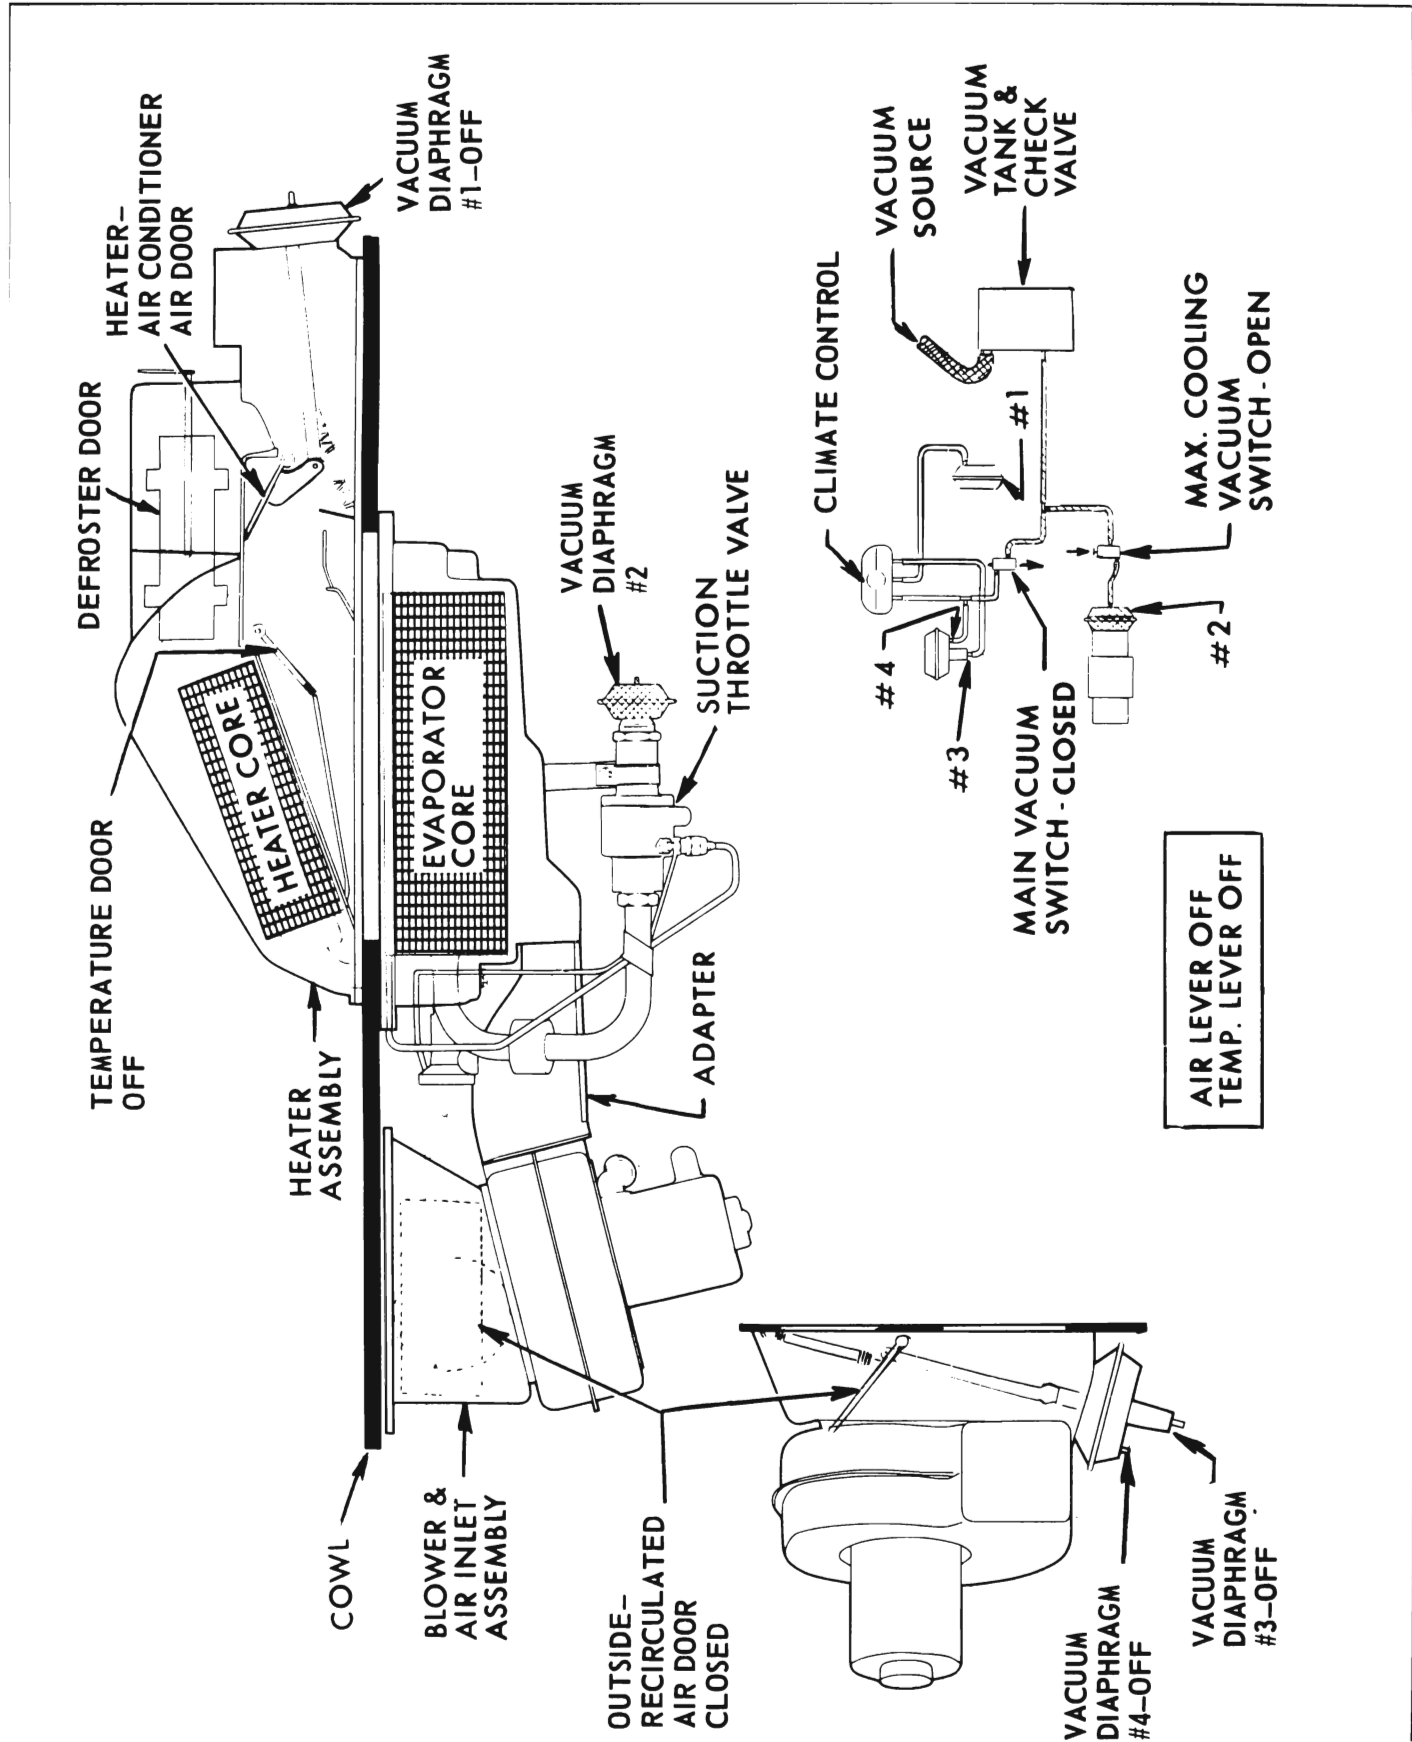
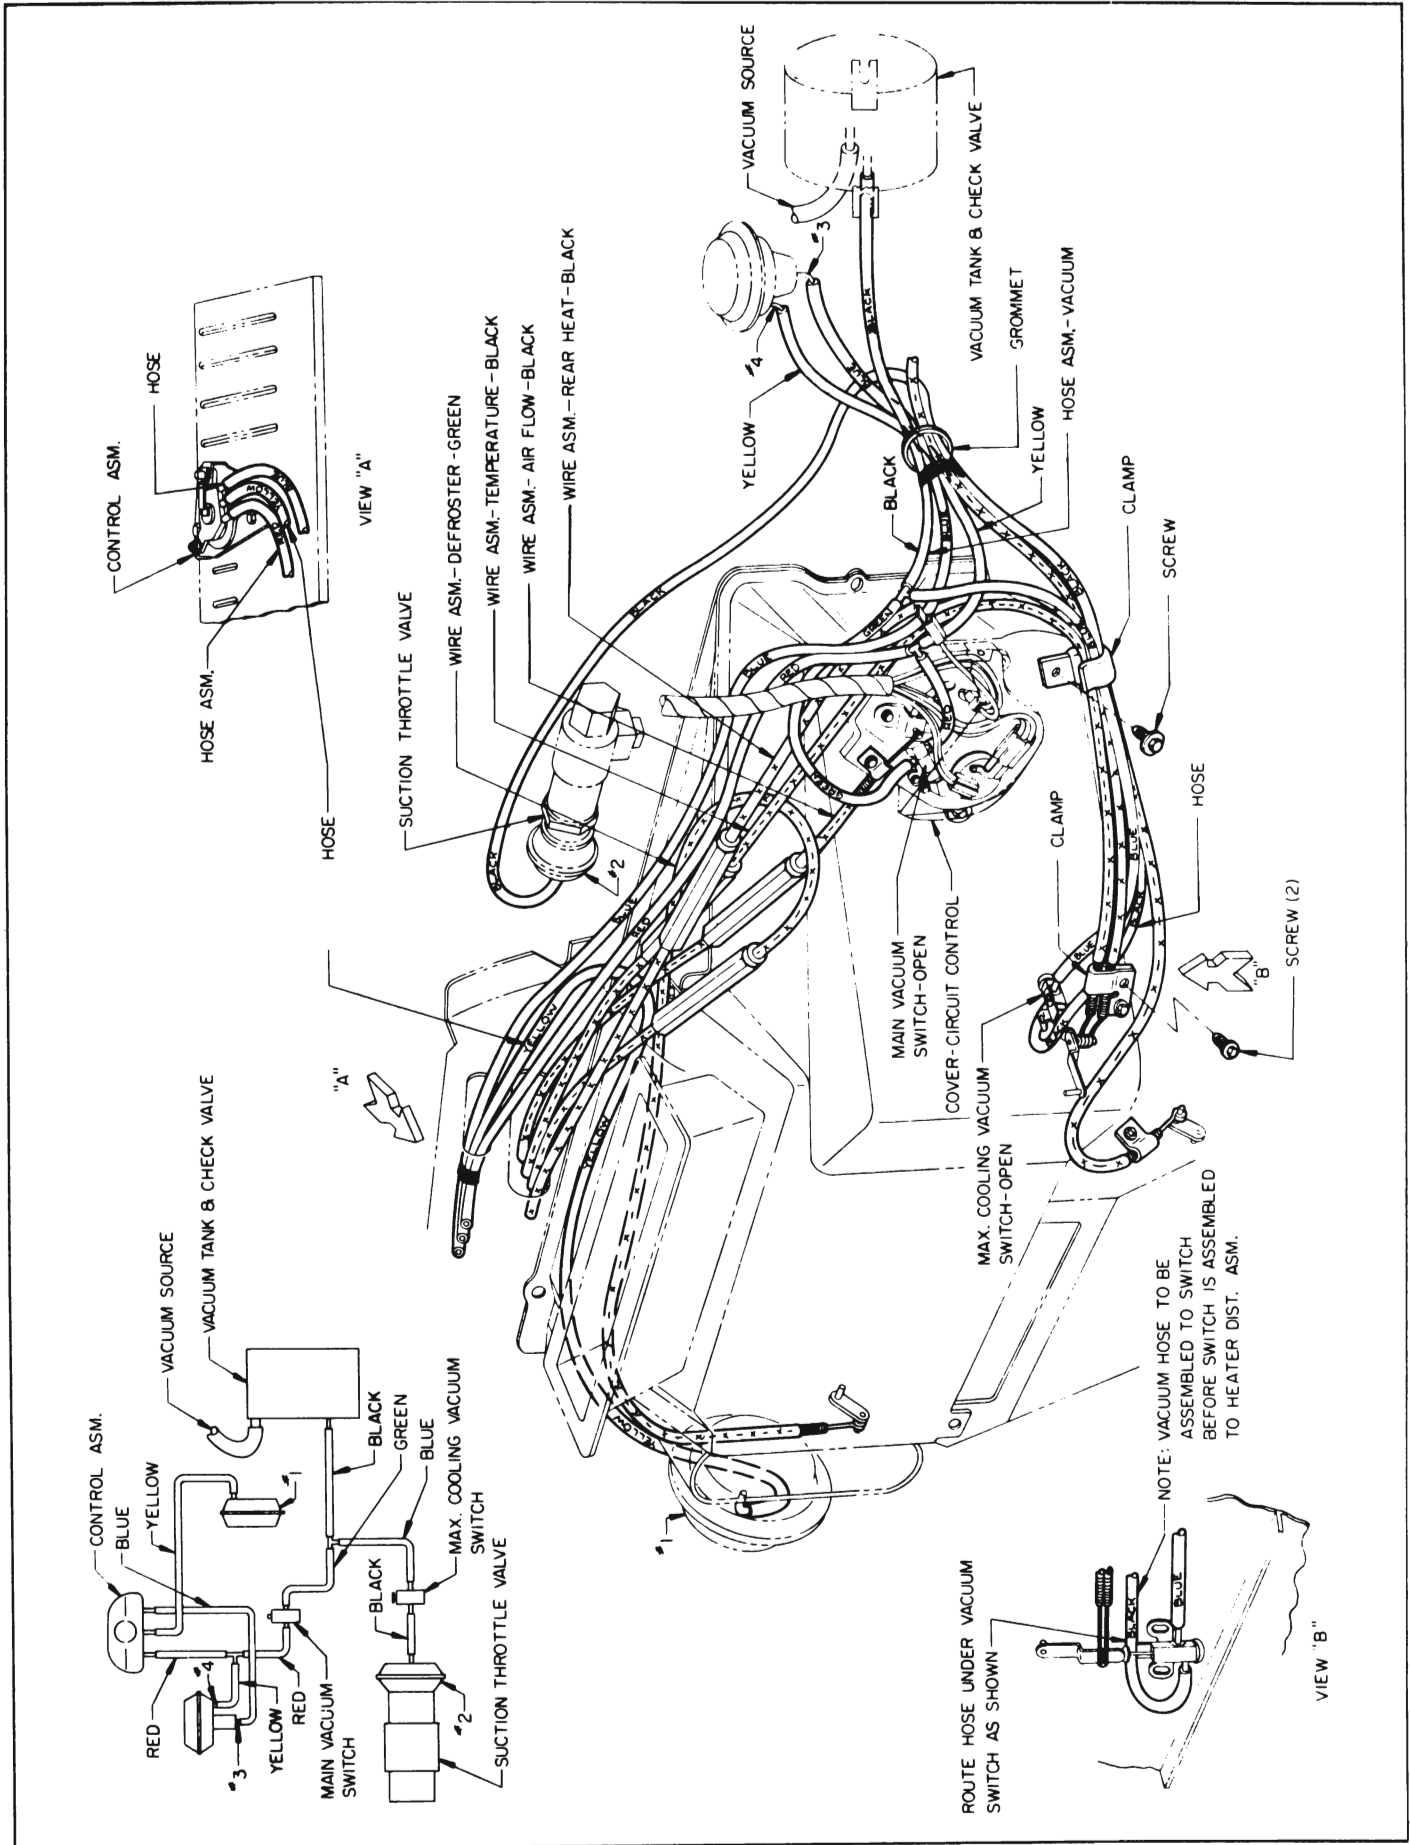

Figure 11-74—Air Conditioner and Heater Off - 4400, 4600 and 4800 Series
Figure 11-78—Vacuum Hose Installation - 4400, 4600 and 4800 Series
2. A heater-air conditioner air door is located in the heater assembly and is operated by the #1 vacuum diaphragm. See Figure 11-74.
The heater-air conditioner air door is normally held in the air conditioner (open) position by a spring attached to its operating lever. See Figure 11-74. When
1. Air Conditioner and Heater Off - When the air lever is in the off position, both the air conditioner and heater are off. The outside-recirculated air door is held closed by its spring and the blower will not be operating. The main vacuum switch is closed. See Figure 11-74. The maximum cooling vacuum switch is open if the TEMP lever is also in the off position. This allows vacuum to be present at the suction throttle valves vacuum diaphragm, even though the air conditioner is not operating.
If the air conditioner-heater air distribution system does not function properly, first check the vacuum hose connections and control wire adjustments. See Figure 11-78. If this does not correct, check for vacuum at vacuum diaphragms, for proper operation of vacuum switches and climate control. See Figures 11-74 through 11-77. Refer to following chart for other possible causes.
To adjust any of the control wires, set control levers in off position. Then rotate the adjuster so that the lever on instrument panel is 1/8" from full off position. See Figure 11-78.